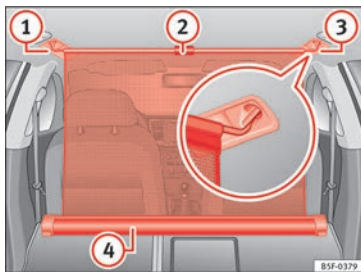

Fig. 174 In the luggage compartment: net partition hooked into the rear seat backrests.
- Pull up handle »» Fig. 174 ② to remove the net from the casing »» Fig. 174 ④.
- Hook in the net partition on the right side »» Fig. 174 ③ (magnified image).
- Hook in the net partition in the left side housing »» Fig. 174 ① pulling the rod.
The net partition is properly assembled when the T-shaped ends are firmly secured in the corresponding housings »» Fig. 174 ③ and ①.
- Roll up the net into the casing »» Fig. 174 ④ lowering it with your hand.